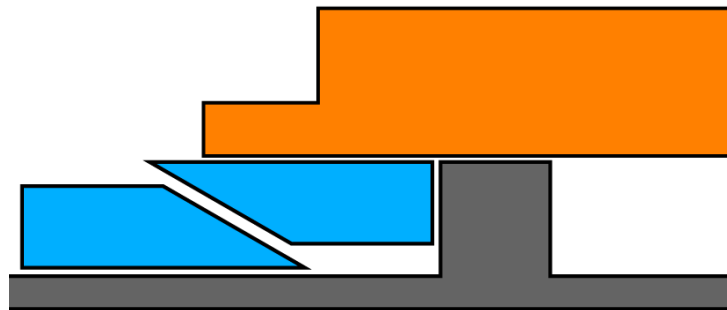

Figure 4
2. Place the other wedge adjacent to it, with the angled sides of the wedges touching each other (Figure 4).